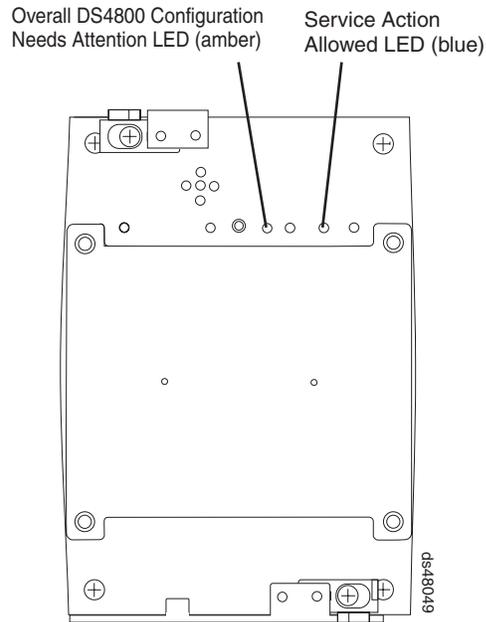

Figure 82. Interconnect-battery unit Needs Attention and Service Action Allowed LEDs
4. Is the Service Action Allowed status LED turned on? (Figure 82 on page 128 shows the location of the Service Action Allowed status LED on the interconnect-battery unit.)